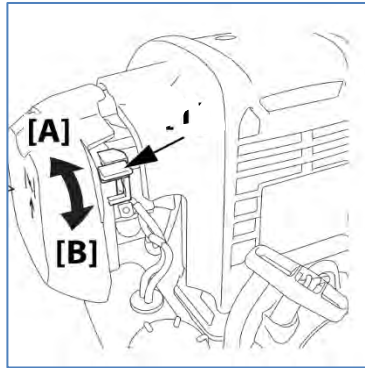

Figure 4: Choke ON (UP) / OFF (DOWN) position.
2. Before starting the driver, press the fuel priming pump several times until it is filled with fuel. Then, slide the choke to the ON [A] position as shown in Figure 4.
6. To turn OFF the engine, slide the STOP SWITCH UP (see Figure 4).